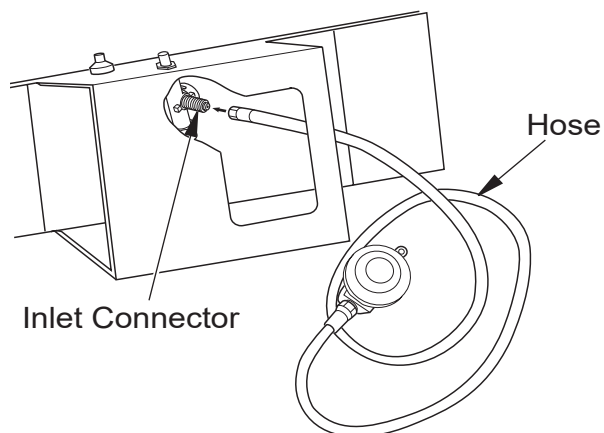

Figure 4 - Hose and Inlet Connector
3. Connect the hose to inlet connector (see Figure 4). Tighten firmly using a wrench. **IMPORTANT:** Use extra hose or piping if needed. Install extra hose or piping between hose/regulator assembly and propane tank. The regulator supplied with heater must be used.